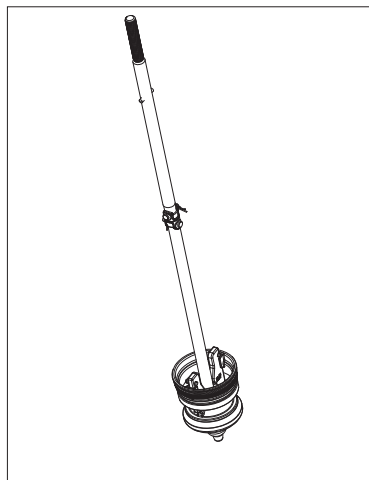

Fig. 7H
8. Remove tool and set aside. Lift and remove the upper stem rod/lower stem rod and main valve assembly from the lower barrel (F49) (see fig. 7H).